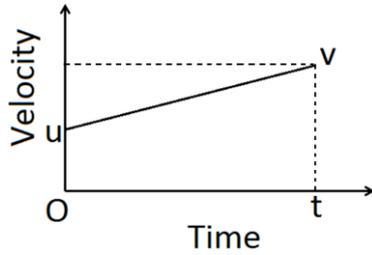

Figure 25. Uniformly accelerated motion graph
From this scenario, we can come up with a vector diagram. Remember that in Unit 2 you learned that when representing vectors graphically, there is need to maintain their magnitudes and directions. We will apply that principle here when drawing the vector diagram. We need to bear in mind that we are not interested in finding the resultant force but the relative velocities of the two objects whose origin is the same (O). Hence, we will not join the velocity lines (vectors) head-to-tail but just connect them to the origin while maintaining their directions and magnitudes. In other words, we will draw vector **oa** parallel to V_A and vector **ob** parallel to V_B . Let us now look at the velocity diagram (**Figure 25**) that results based on these pieces of information.
From **Figure 25**, absolute velocity (velocity relative to the earth) is always measured from point O in the diagram. We can find the velocity of B by vector addition of **oa** and **ab**.